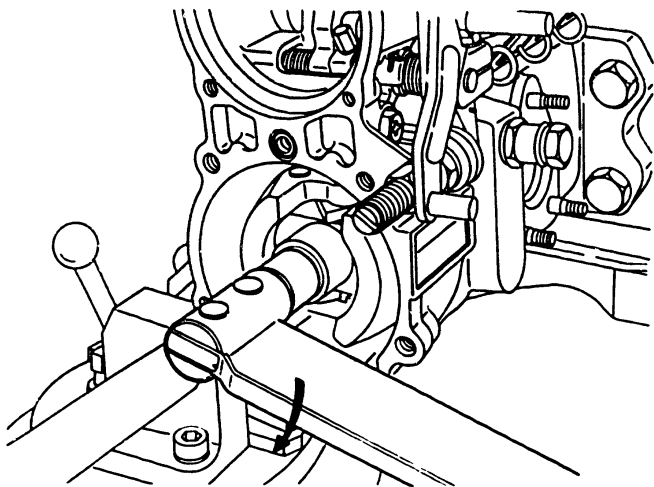

Fig. 49 Tightening the roundnut
Tighten the flyweight roundnut (122) securely to the specified tightening torque: 5 to 6 kg·m. (Fig. 49)